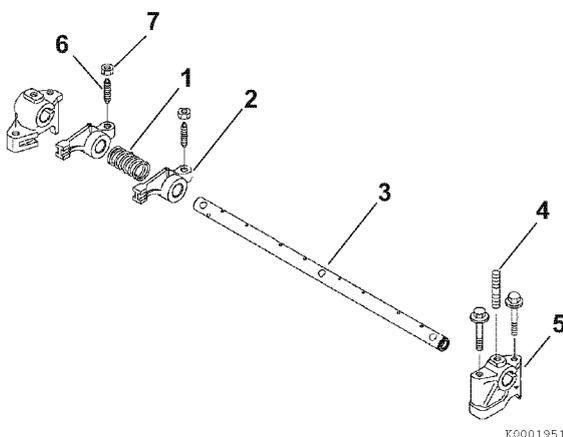

Figure 6-38
1. Lubricate the rocker arm shaft. Slide the rocker arm supports (5, **Figure 6-38**), springs (1, **Figure 6-38**) and rocker arms (2, **Figure 6-38**) onto the shaft.
- To properly align the rocker arm shaft with the rocker arm shaft supports, first reinstall a rocker arm support (5, **Figure 6-38**) having a hole for the shaft alignment stud (4, **Figure 6-38**). Align the hole in the rocker arm shaft and the hole in the rocker arm support. Reinstall the alignment stud.
Note: **Figure 6-38** shows components for one cylinder. Components for all remaining cylinders are assembled in the same order.
3. If removed, reinstall the valve adjusting screws (6, **Figure 6-38**) and the lock the nuts (7, **Figure 6-38**).